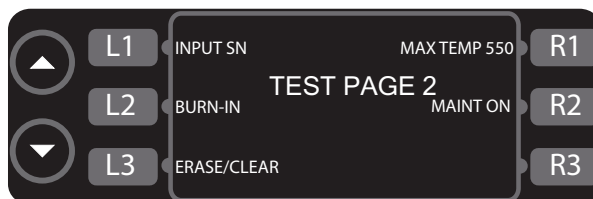
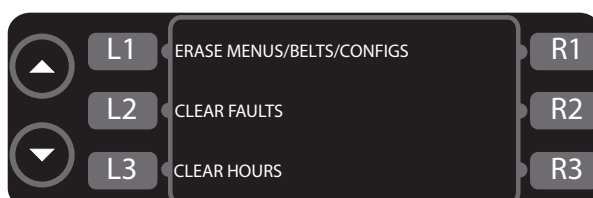

Figure 22: Test Mode Screen 2
Figure 30: Erase Screen
1. Press L1 (Figure 22, page 17) on screen 2 of the TEST MODE to access the serial number input screen.
To initiate a burn-in test, Press L2 (Figure 22, page 17) on screen 2 of the TEST MODE.
To erase oven settings, press L3 (Figure 22, page 17) on screen 2 of the TEST MODE to access the erase screen (Figure 30). From the erase screen,
The serial number is located at the bottom of screen 2 of the TEST MODE (Figure 22, page 17).